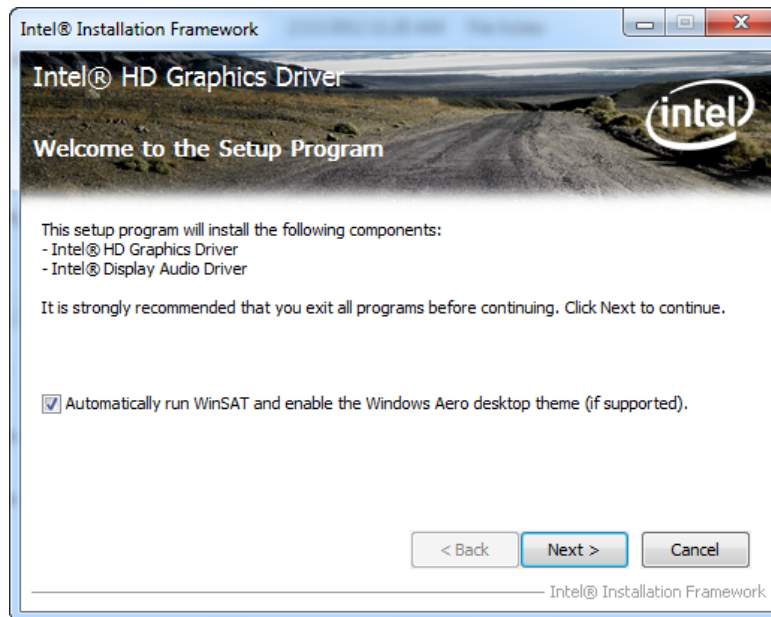

Figure 5-10: Graphics Driver Welcome Screen
Step 8: The **Welcome Screen** in **Figure 5-10** appears.